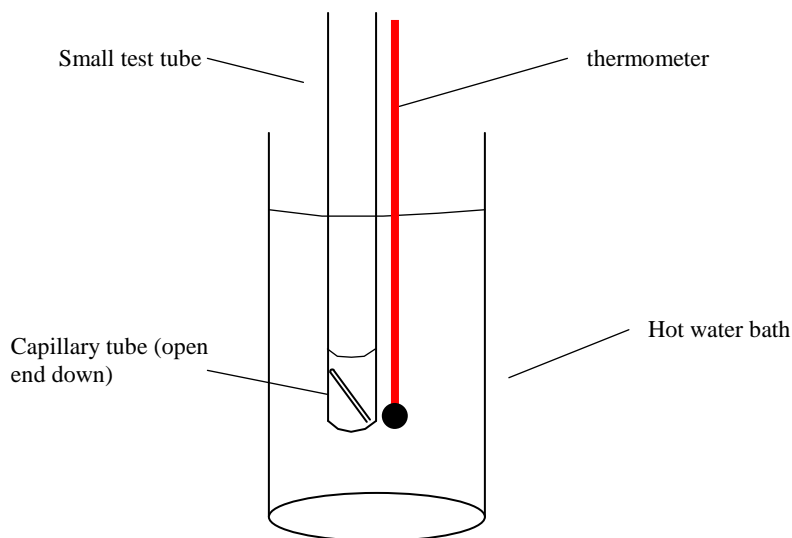

Figure 1. Assembly for micro boiling point determination
- Place a 1 cm microcapillary tube, open end down, in the above tube containing the acetone as shown in figure 1. The microcapillary tube must be leaning against the walls of the test tube.
- Place the mini test tube/thermometer assembly in the hot water bath as shown in figure 1.